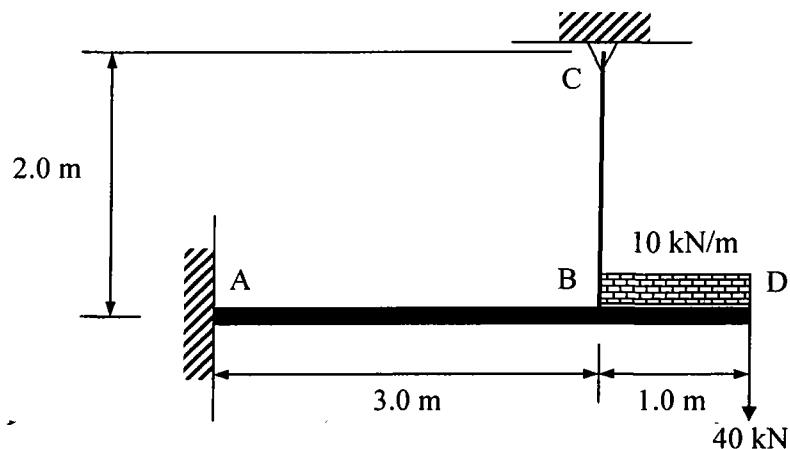

Figure 3 / Rajah 3
2. (b) The beam shown in Figure 3 is fixed at A and additionally supported at B using tie rod BC. Determine the force in member BC using **method of least work** and calculate all reaction forces at A. The cross sectional area for tie rod is 150mm^2 and point C is pinned. Given $I = 140 \times 10^6\text{mm}^4$ for the beam and $E = 200\text{GPa}$. Neglect axial compression and shear in the beam.